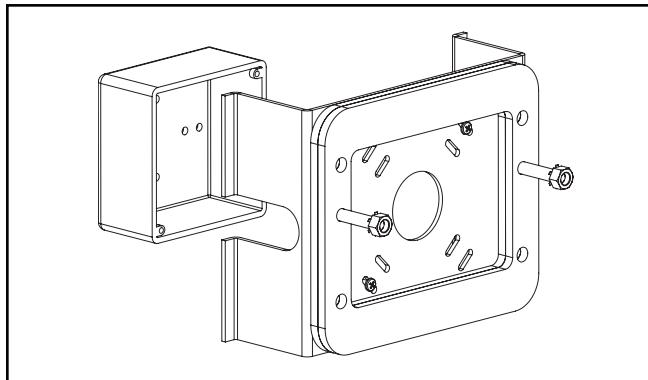

Figure 11.
4. Using the two screws supplied with the junction box, attach the plate to the junction box, with gaskets and studs facing away from the wall. (Figure 11.)